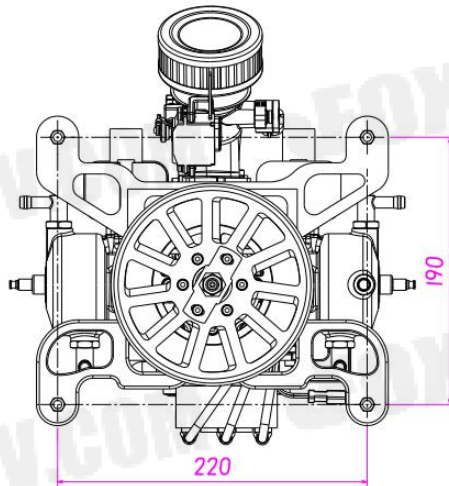

Fig. 3
2. The installation dimension of Halo-6000 is given in Fig. 3: